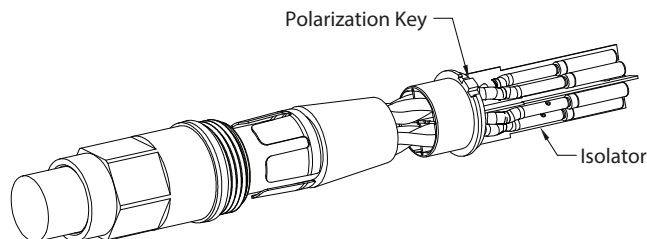

FIGURE 3
B. Insert each pair of wires into the appropriate quadrant on the isolator according to figure 3 for socket modules, and figure 4 for pin modules.
C. Snap each contact into the appropriate position on the inner insulator. Refer to figure 3 for sockets and figure 4 for pins.